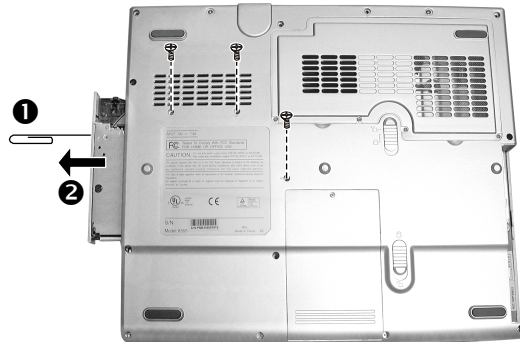

Figure 2-15 Remove the CD/DVD
2. Remove three screws fastening the CD/DVD-ROM drive. (Figure 2-15)
3. Insert a small rod, such as a straightened paper clip, into CD/DVD-ROM drive's manual eject hole (❶) and push firmly to release the tray. Then gently pull out the CD/DVD-ROM drive by holding the tray that pops out(❷). (Figure 2-15)